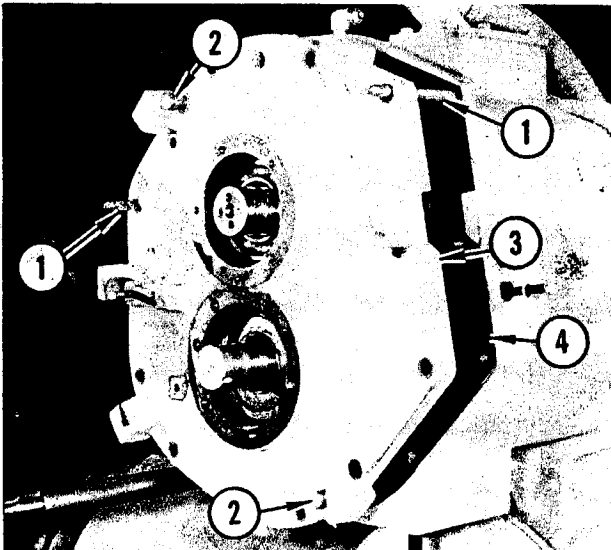

FIGURE 44. TRANSMISSION HOUSING COVER
Refer to Figure 44. Remove thirteen capscrews and lockwashers retaining cover to transmission housing. Install guide pins (1) as shown. Install nuts on the threaded portion of the two dowel pins (2). Tighten nuts until dowel pins are removed. Tap out on cover (3) until cover is loose, then remove. NOTE: Force upper and lower shafts back as cover is removed. Remove gasket (4).